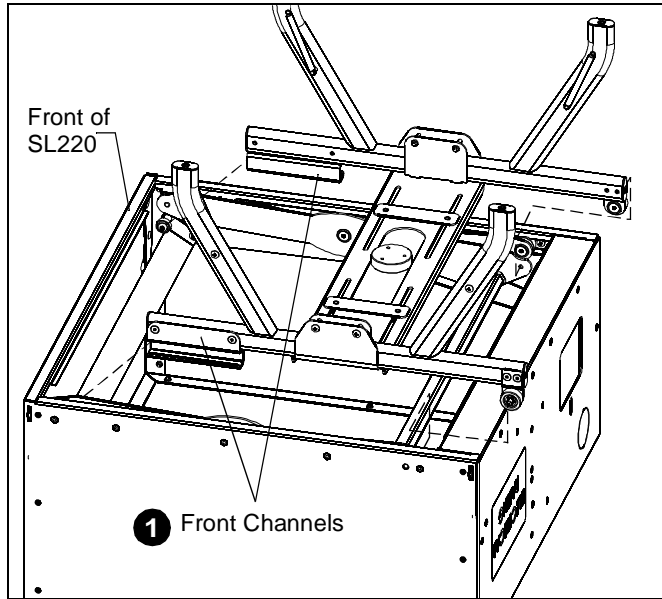

Figure 6
1. Slide front channels of previously removed projector cradle forward onto the SL220 bearings. (See Figure 6)